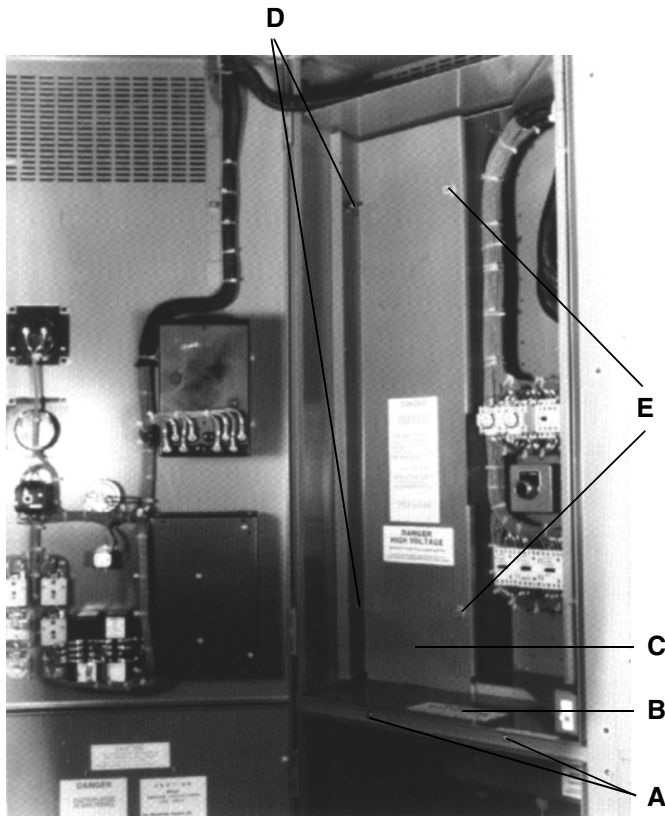

Figure 7 Removing Horizontal Barrier
2. Remove screws (Fig. 7, item A).
3. Push front portion of horizontal barrier (Fig. 7, item B) down into medium voltage compartment. When horizontal barrier is in a vertical position, remove it by disengaging it from slot in vertical barrier (Fig. 7, item C).
4. Loosen nuts (Fig. 7, item D) and thumb screws (Fig. 7, item E).
5. Move vertical barrier (Fig. 7, item C) forward, allowing slotted holes to clear nuts (Fig. 7, item D).
6. Remove barrier (Fig. 7, item C). Thumb screws (Fig. 7, item E) remain held captive to barrier.
2. Remove horizontal barrier (Fig. 7, item B) and vertical barrier (Fig. 7, item C). Refer to steps 2 through 6 in "Line Cable Connections".